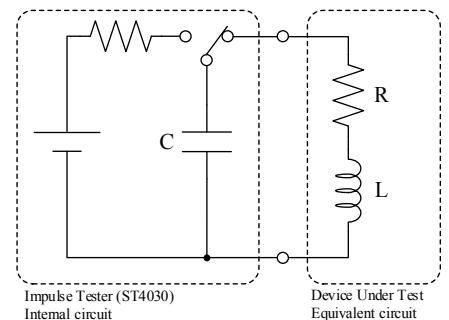

Figure 1: Equivalent circuit model for identifying LC and RC characteristics
In line with previous studies(1), this article will describe the two parameters used in characteristic distribution as LC and RC characteristics. These characteristics are the products of the resistance component R, the capacitance component C, and the inductance component L of the equivalent circuit shown in Figure 1 for the instrument and workpiece under test, in the sense of  $L \times C$  (LC) and  $R \times C$  (RC). The former corresponds to oscillation frequency and the latter to attenuation in the attenuating oscillation waveform.